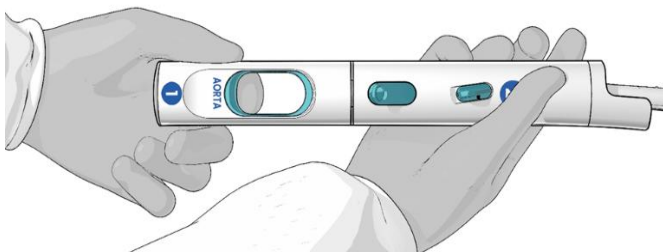
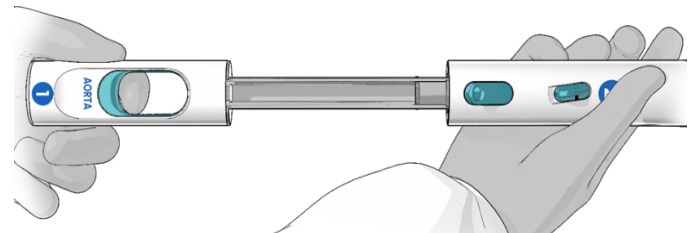
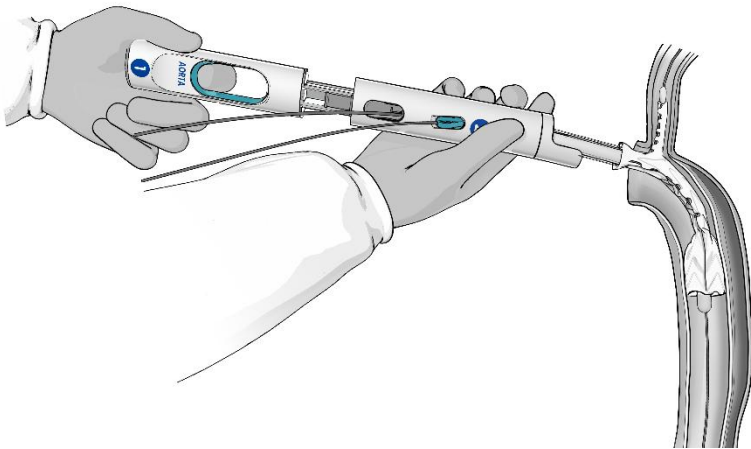

Figure 11A. Pull aortic trigger
Figure 11B. Retract handle until hard stop
Figure 12. Deployment of Arcevo™ LSA implant in transected aorta after positioning
11.4.3 Deploy the aortic stent graft by first pulling the trigger (**Figure 11A**) and then retracting the handle (**Figure 11B**) until the delivery system locks to open the Wrap and deploy the stent graft (**Figure 12**).